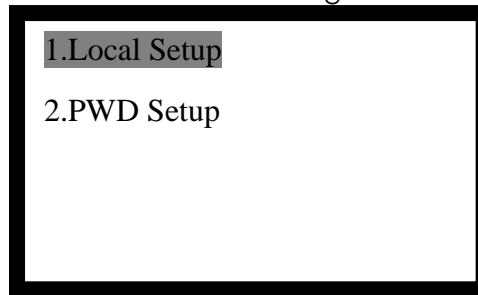
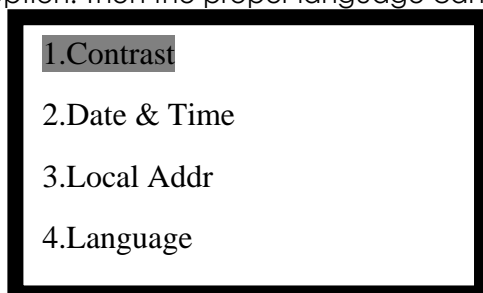
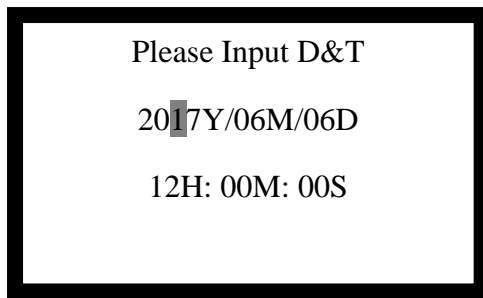
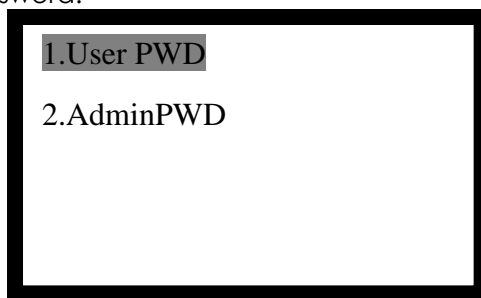

Fig. 4-23
Fig. 4-24
Fig. 4-26
Fig. 4-28
Selecting "4.System Setup" in Fig.4-1 enters the screen of Fig.4-23 showing two sub-menus.
Selecting "1.Local Setup" in Fig.4-23 enters the screen of Fig.4-24 showing four sub-menus.
- Selecting "2. Date & Time" in Fig.4-24 and entering the user password shows the screen of Fig.4-26. Pressing **▲** and **▼** move the cursor to the position of year, month, date, hour, minute, or second. Enter the actual value (if the entered value is illegal, it cannot be saved). Press **Menu/Enter** to save the modification and exit. Press **ESC** to cancel the operation.
Selecting "2. PWD Setup" in Fig.4-23 enters the screen of Fig.4-28.